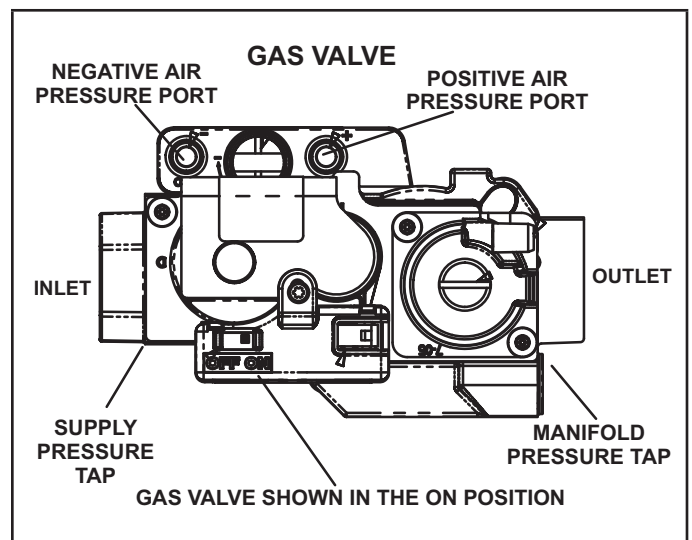

FIGURE 48
Gas Valve Operation (FIGURE 48)
- 6 - Move the gas valve switch to the OFF position. See FIGURE 48.
- 8 - Move gas valve switch to the ON position. See FIGURE 48. Do not force.